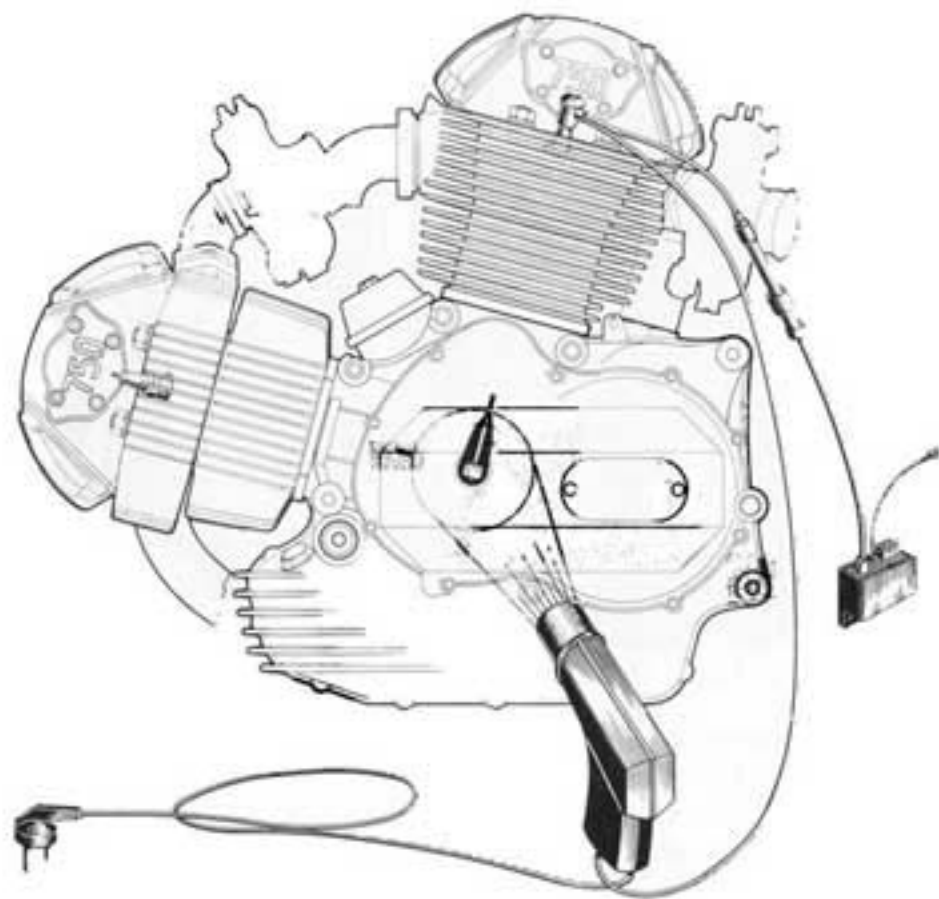

Fig. 13
- 3) Start the engine until attaining about 3,000 rpm. and direct the stroboscopic light on the reference mark (I) of the cylinder in question, placed on the cover, clutch side.
- 4) The stroboscopic light must light up the phasing indicator perfectly aligned with the reference mark (I). If this is not, adjust it by rotating the stator base of the ignition generator: to advance rotate anticlockwise; to retard rotate clockwise (see Fig. 13).